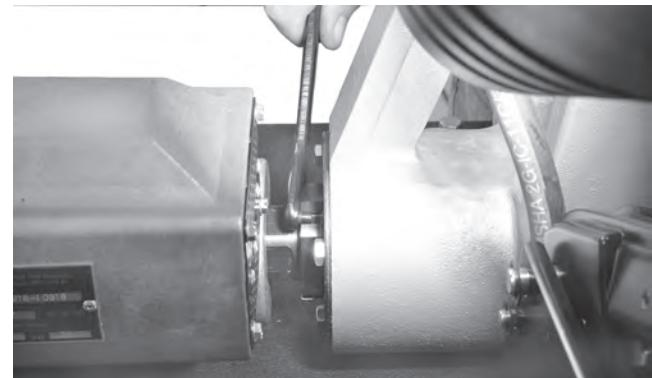

Figure 24 – Loosen and Remove Drive Shaft Retaining Nut
4. Use the spanner wrench to remove the drive shaft bearing retaining nut (Figure 24).